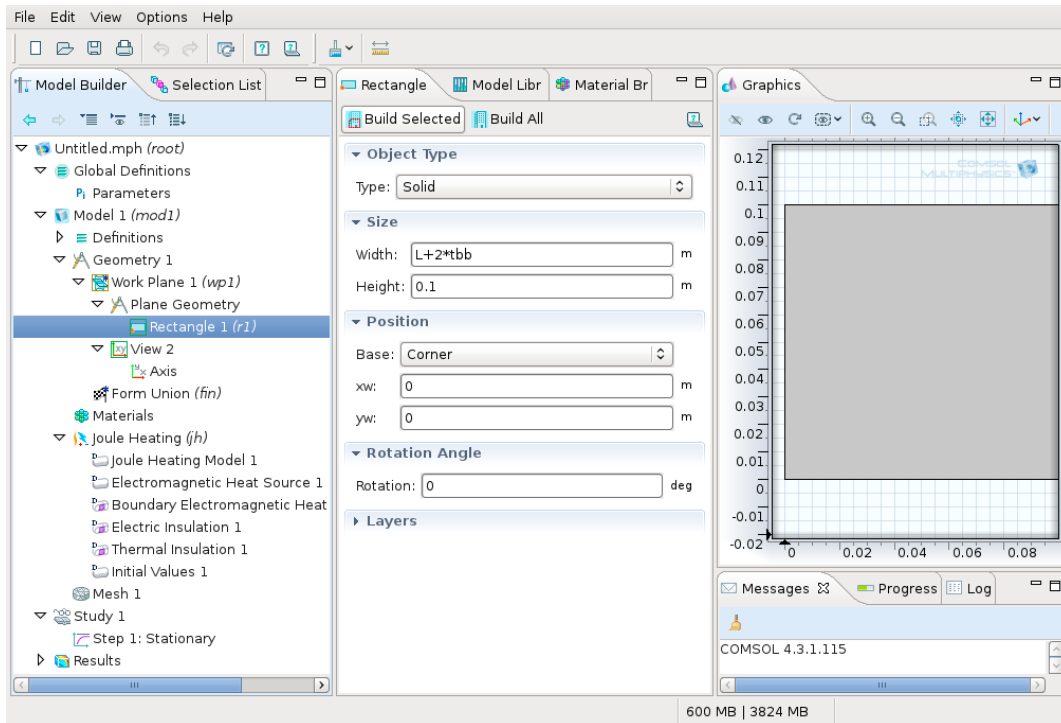

Figure 9: Drawing the rectangle.
***Model Builder*** → ***Work Plane 1*** → ***Plane Geometry: right button*** → ***Rectangle***. Rectangle parameters (Fig. 9):